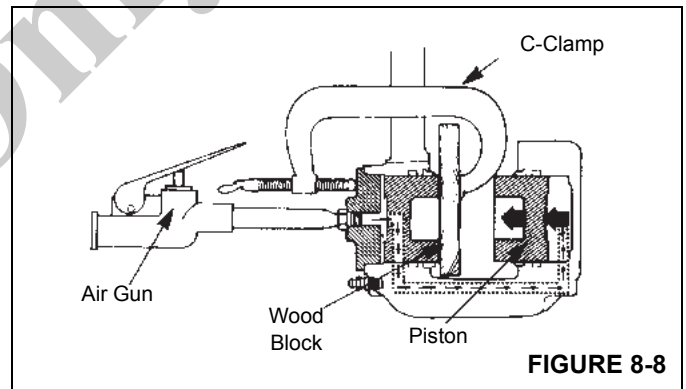

FIGURE 8-8
- b. Apply compressed air to the inlet fitting to force the pistons out of the other housing. If one piston comes out before the other piston, put a piece of wood in front of the piston that comes out first. Apply compressed air to force the other piston out of the housing (Figure 8-8).